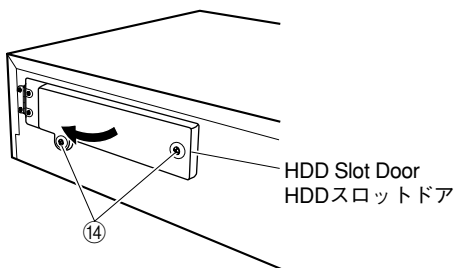

Fig. 16
- Loosen 2 screws (14) on the HDD slot door and open the HDD slot door. (Fig. 16)